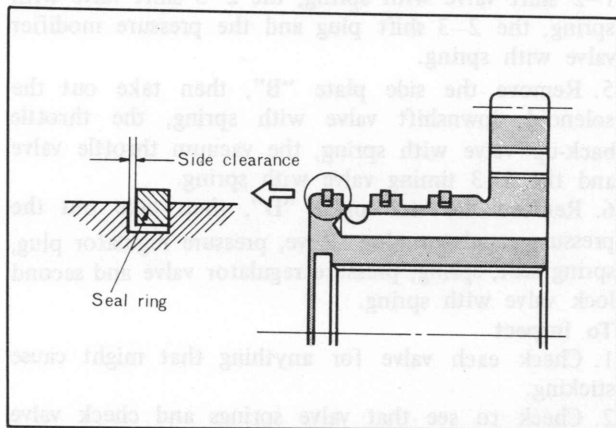

Fig. 7A-36 Clearance of oil seal ring
3. Check the side clearance between the sealing and groove as shown in Fig. 7A-36. The standard clearance is $0.04 \sim 0.16 \text{ mm}$ ($0.002 \sim 0.006 \text{ in}$). When disassembling the seal ring, squeeze it up so that its joint will rise above the groove, and disconnect the joint.